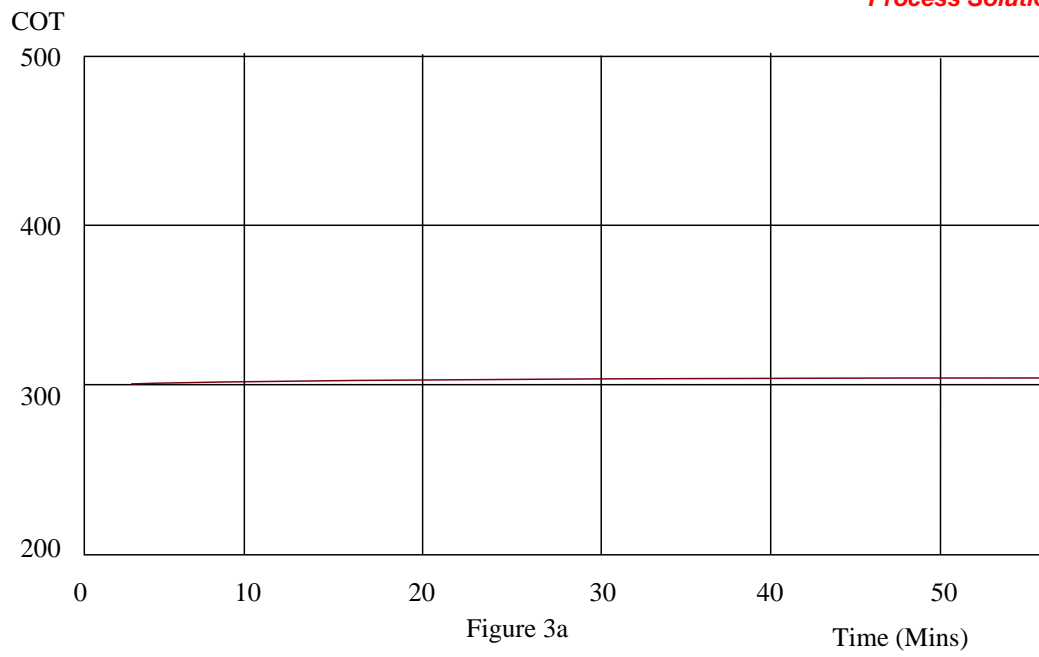

Figure 3a
- Comment on fig 3a,b,c,d process responses